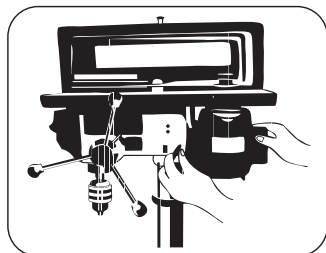

FIGURE 8.14
- Open the Belt Guard Cover **2** and loosen the belt tensioner found on the outside (Figure 8.14).
- When the desired tension is reached, tighten the belt tensioner (Figure 8.14).